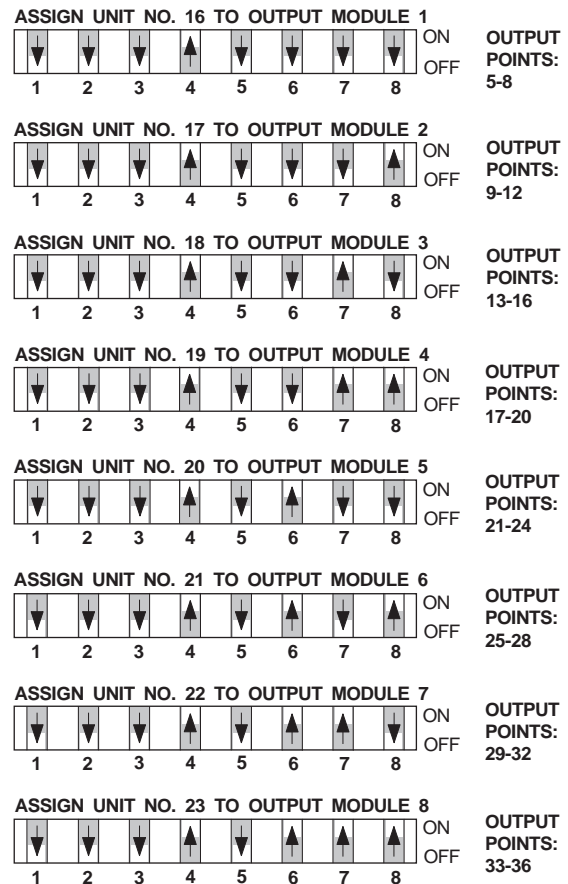

Figure 9. DIP Switch Settings for HOMs 1 through 8 for Use with 1251e Access Control Panel
1. Set the HOM DIP switches on the first HOM to the unit number 16 setting as shown in Figure 9.
3. If you're adding a second HOM, assign unit number 17 to it by setting the DIP switches as shown in Figure 9.